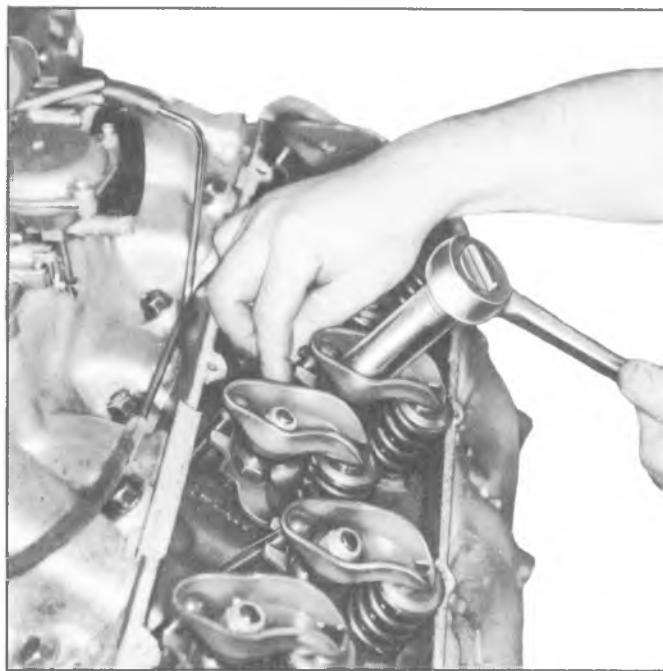

Fig. 6A-15V--Valve Adjustment - Typical
c. Back out adjusting nut until lash is felt at the push rod then turn in adjusting nut until all lash is removed. This can be determined by checking push rod side play while turning adjusting nut (fig. 6A-15V). When play has been removed, turn adjusting nut in one full additional turn (to center lifter plunger).
4. Using Tool J-5892 to compress the valve spring, remove the valve locks, valve cap and valve spring and damper (fig. 6A-16V).